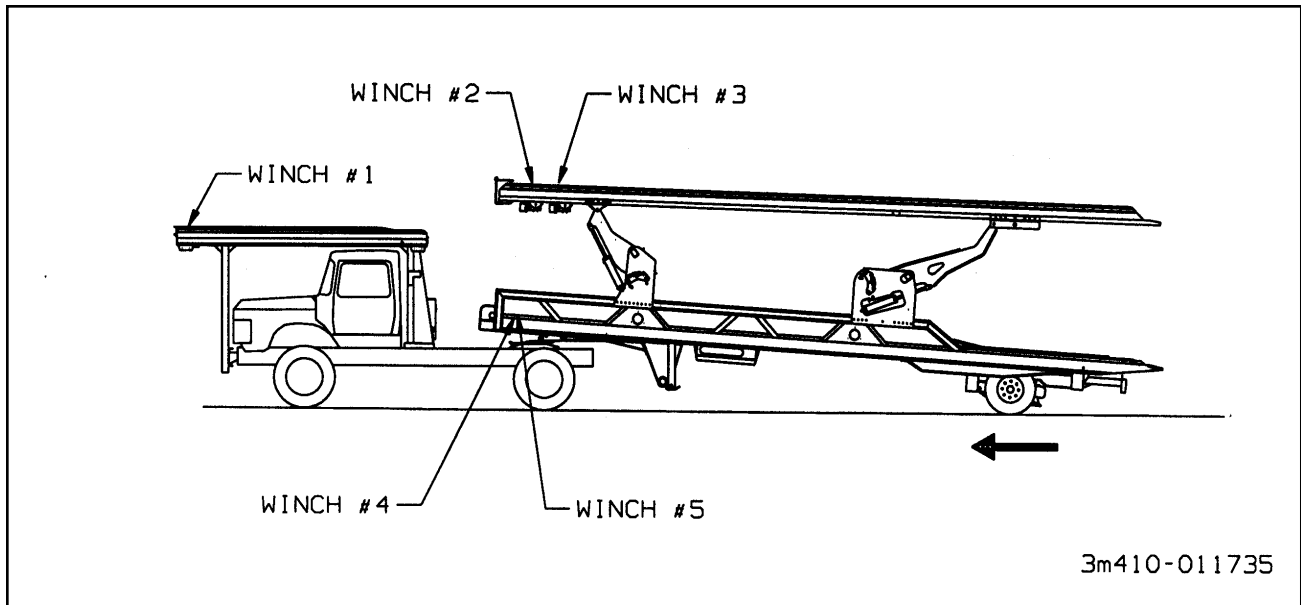
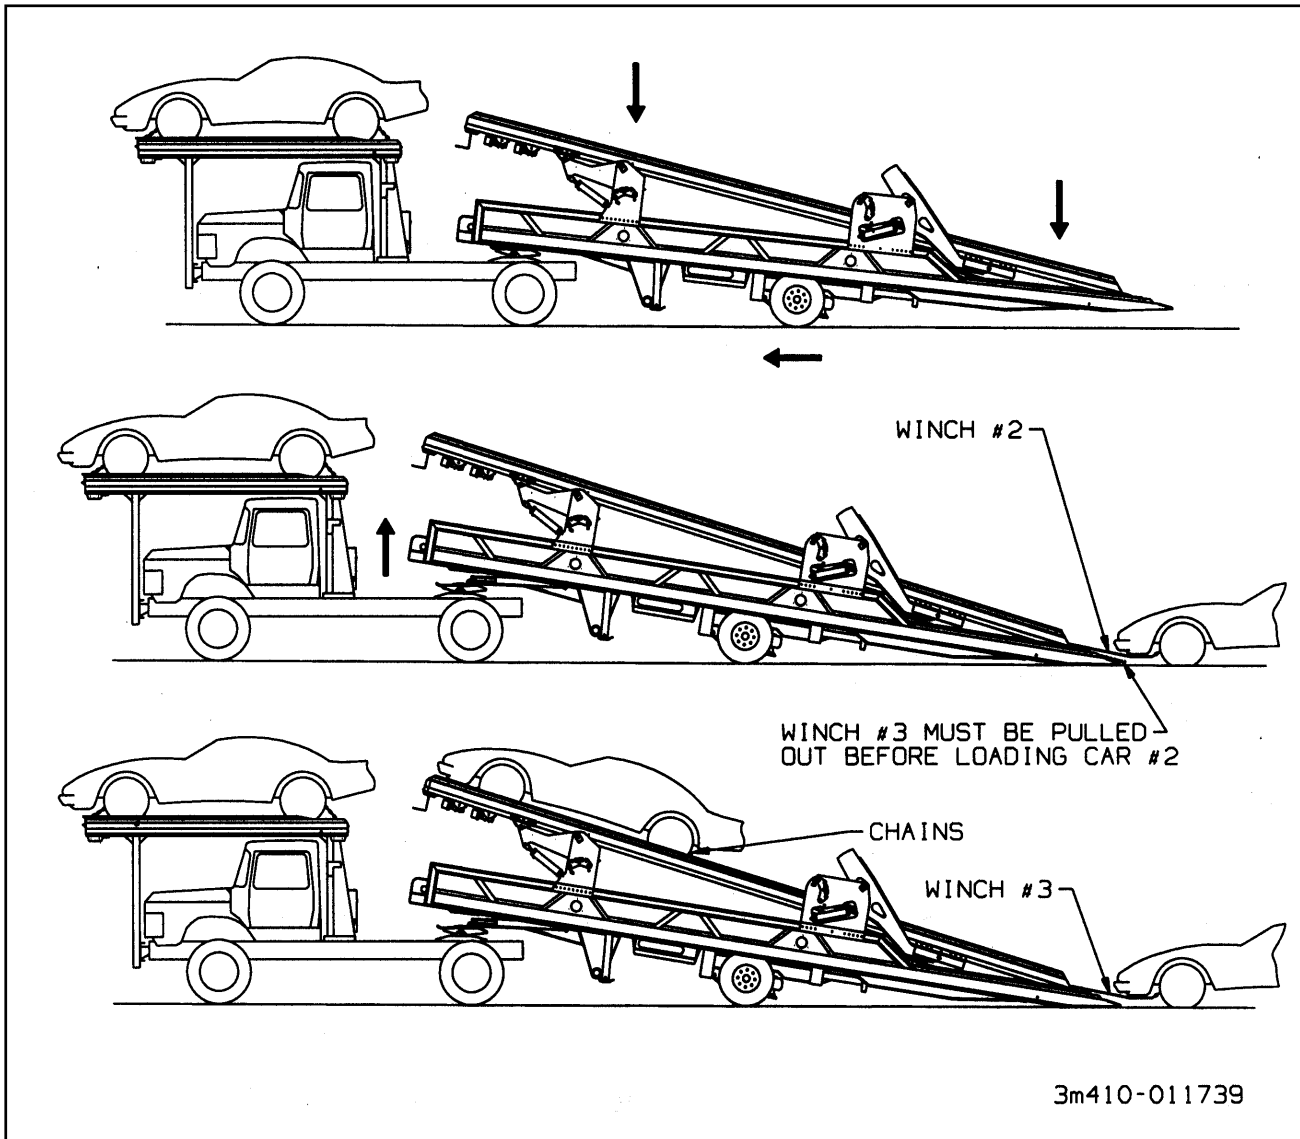
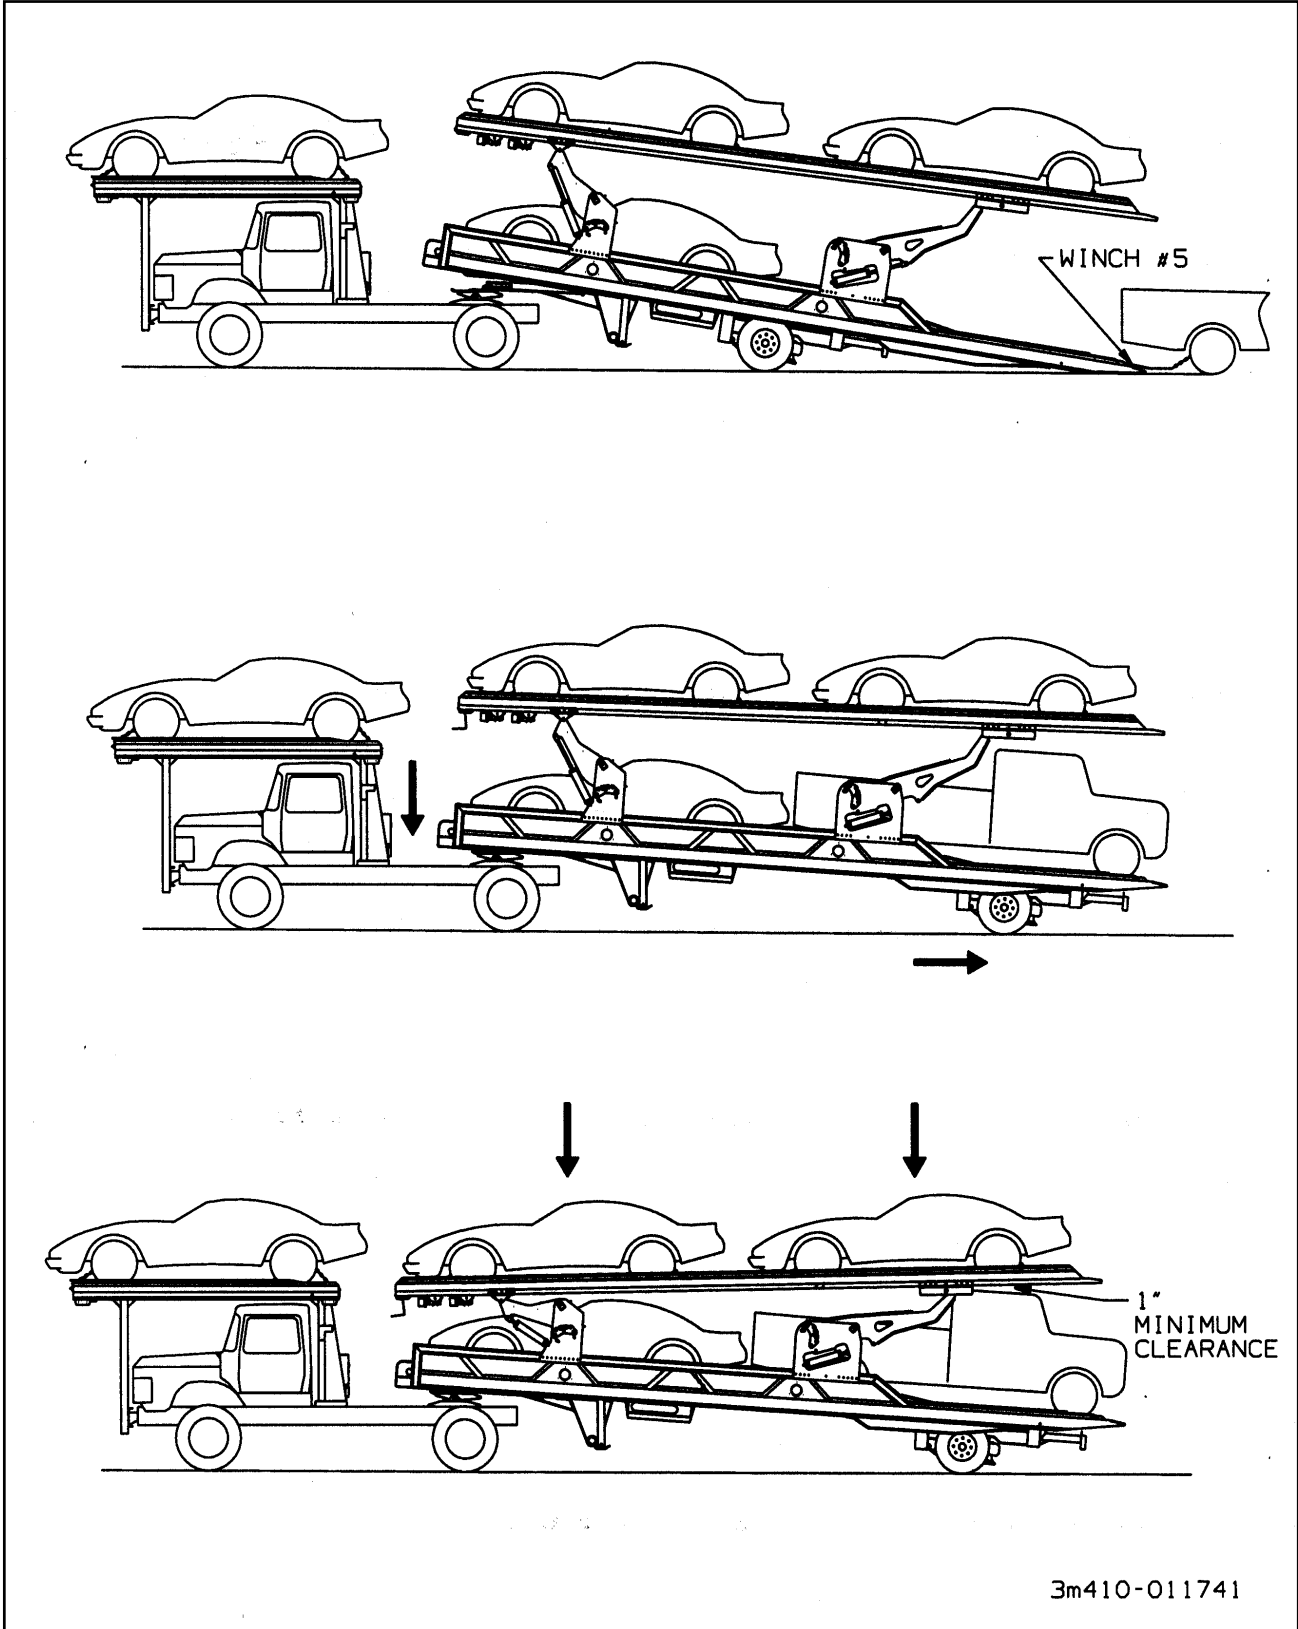

Figure 3-6 Preparation for Loading
Figure 3-9 Loading the Upper Deck
Figure 3-11 Loading the Lower Deck
3-13.2 Park the tractor/trailer in a straight line on a level even surface. Set the tractor brakes and release the semitrailer brakes. (See Figure 3-6.)
- 3-14.7** Prepare the first vehicle to be winched onto the trailer. Connect winch #2 (See **Figure 3-6**) to the first vehicle and pull it to the front of the upper deck. Secure the vehicle so it will not roll forward or backward.
- 3-15.2 Unlock and lower the front arm as far down as it will go (See Figure 3-9).
- 3-15.5 Free-wheel the winch cable from winch #3 (See Figure 3-6) out until it is at the rear of the upper deck so it is accessible after loading the next vehicle.
- 3-15.6 Connect winch #2 (See Figure 3-6) to the vehicle and pull it to the front of the upper deck. Make sure there is adequate clearance between the over-cab vehicle and the vehicle on the trailer to allow for swing clearance. 2-1/2 feet clearance is usually required. Secure vehicle with chains (See Section 3-17).
- 3-15.7** Connect winch #3 (See Figure 3-6) to the next vehicle and pull it to the rear position on the upper deck. (See Figure 3-9) Secure with chains (See Section 3-17).
- 3-16.3** Free-wheel the winch cable from winch #5 (See Figure 3-6) out until it is at the rear of the lower deck so it is accessible after loading the next vehicle.
3-16.4 Connect winch #4 (See Figure 3-6) to the next vehicle and pull it to the front of the lower deck as far as possible without interfering with the upper deck. Secure with chains (See Section 3-17).
3-16.5 Connect winch #5 (See Figure 3-6) to the next vehicle and pull it to the rear position on the lower deck (See Figure 3-11). Secure with chains (See Section 3-17).
3-16.7 Lower the arms; front first, then rear; to allow a minimum clearance of 1" above the vehicles on the lower deck. (See Figure 3-11).
- 3-20.7** Reel out winch #1 (**See Figure 3-6**) to allow the vehicle to move off of the Over-the-cab deck and onto the trailer upper deck.
- 3-20.8** After the vehicle is completely on the trailer deck, secure the vehicle so winch #1 (**See Figure 3-6**) can be disconnected and winch #2 (**See Figure 3-6**) can be connected to the vehicle.